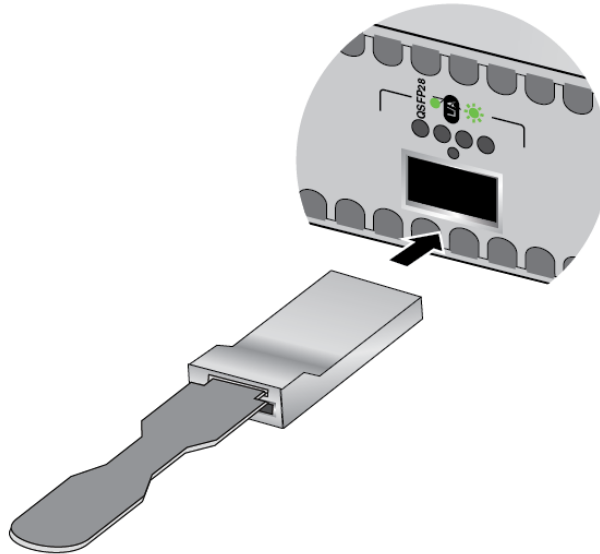

Figure 134. Installing 100Gbps QSFP28 Transceivers in XEM2-1CQ Line Cards
- ❑ 100Gbps QSFP28 transceivers for XEM2-1CQ Line Card: refer to Figure 134.